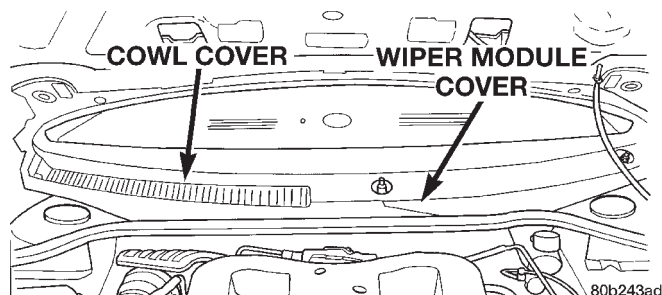

Fig. 4 Wiper Module And Cowl Cover
(5) Remove the wiper arms from the pivots. Wiper arms are removed from the pivots by rocking them back and force on the pivots until they can be pulled off the pivots.
(6) Remove the wiper module cover and cowl cover (Fig. 4) from the vehicle.